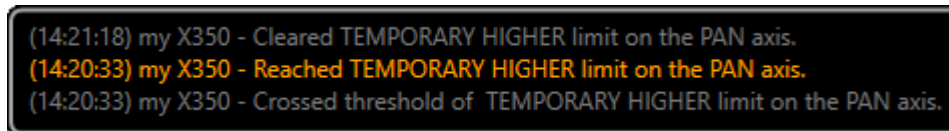

Figure 122 - The Notifications Panel
1. In the main SmartShell window, tap the **Notifications** panel at the bottom of the window (Figure 122).